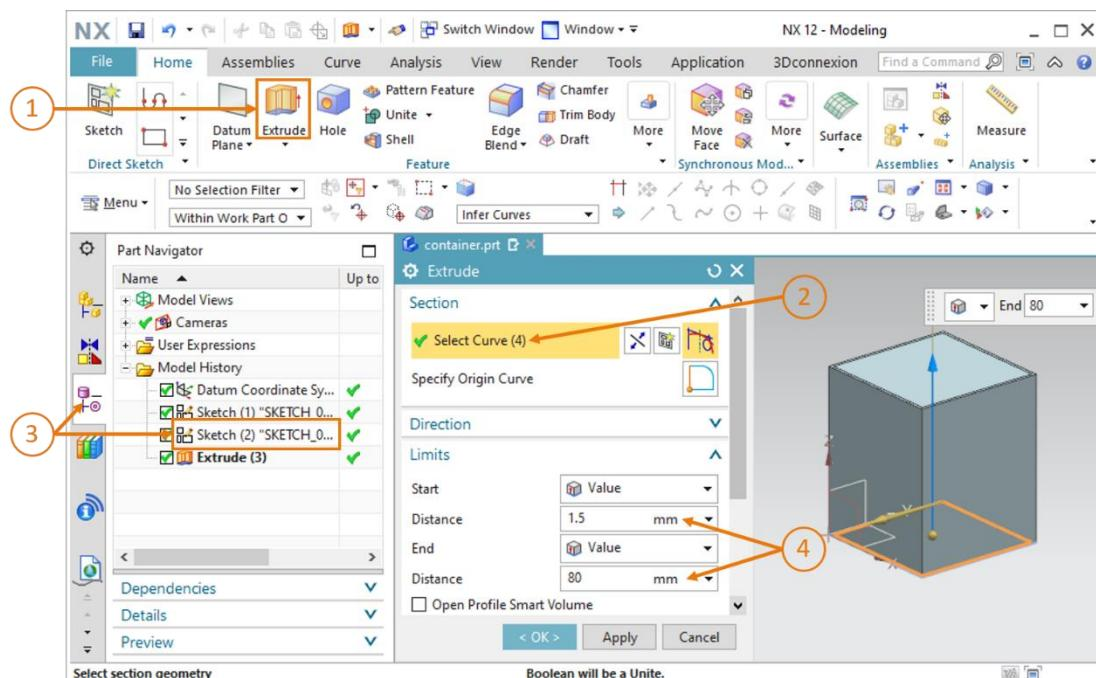

Figure 28: Extruding the inner form of the container
→ The interior of the container must now be created. Within a CAD system it is not only possible to model individual forms but also to combine them with one another. In this case, an inner cuboid is to be created and subtracted from the outer form of the container. First, select the "Extrude" command again (see Figure 28, step 1). As indicated in Figure 28, step 2, click on "Select Curve" and select the sketch with the inner square "**Sketch (2)**" "**SKETCH\_001**" in the Part Navigator (see Figure 28, step 3). In the "Limits" tab, select a distance of **1.5 mm** for the start value so that the wall thickness of the base will be 1.5 mm and a distance of **80 mm** for the end value (see Figure 28, step 4).